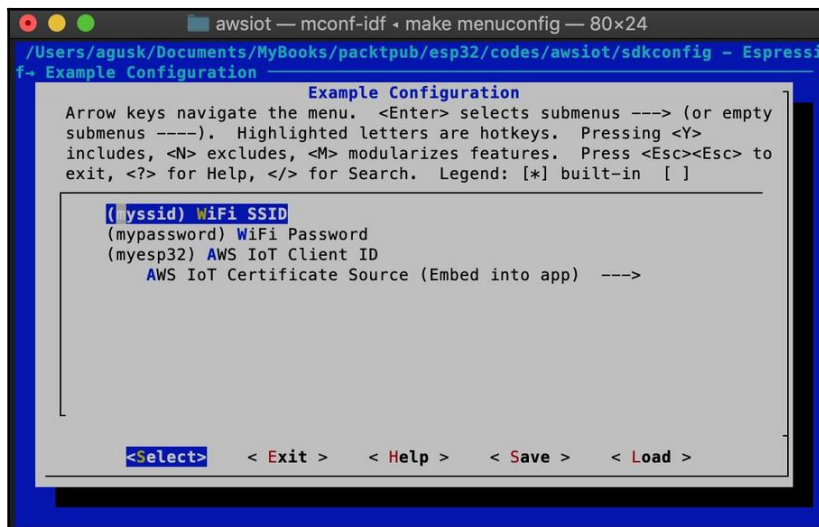

Figure 10.12: Configuring the Wi-Fi and AWS IoT Client ID
4. Then, you will get a dialog box as shown in *Figure 10.12*.
8. You can navigate to **AWS IoT Certificate Source** to generate the certificates, as shown in *Figure 10.12*.